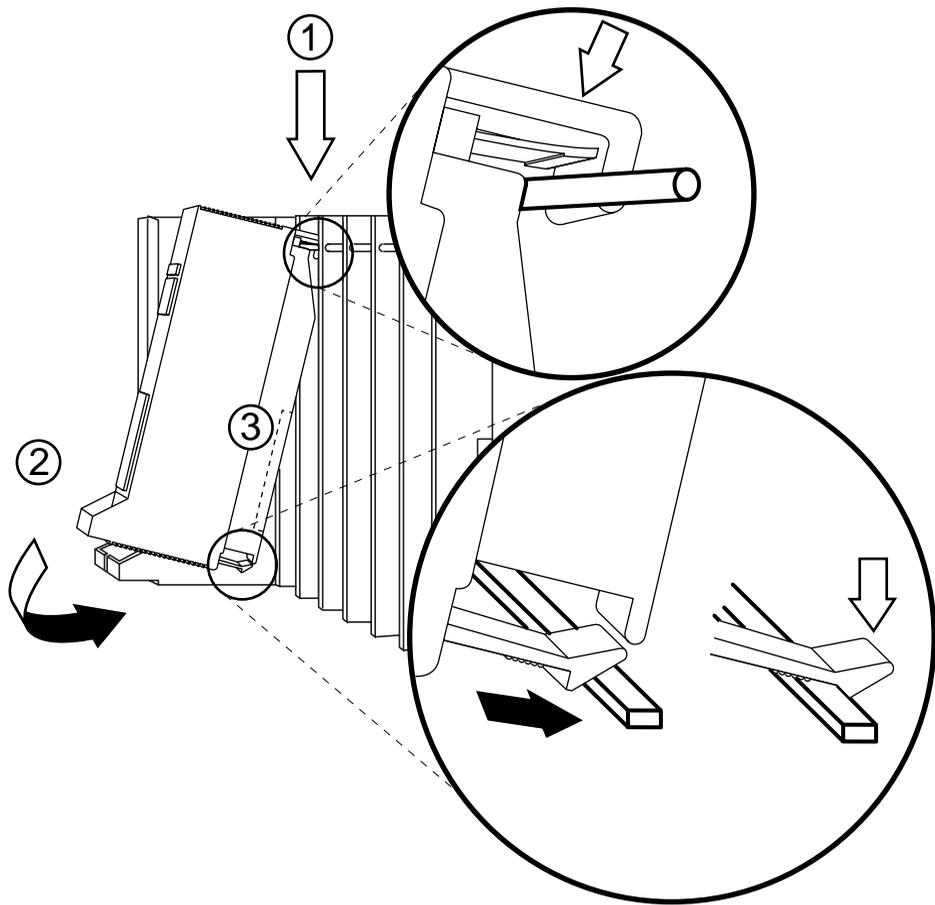

Figure 2-10. Installing the Processor into the Carrier
To install the processor in the carrier, follow the steps below. Refer to Figure 2-10.
To avoid damage, do not force the module. If the module does not insert easily, press the bottom rear locking tab, remove the module, and inspect the module and carrier for damage or obstruction. The bottom-rear locking tab is shown in Figure 2-10. This tab is used on all modules.
- ▶ **3. Lower the hook on top of the module onto the rod on the top of the carrier in the appropriate slot. See Figure 2-10 on page 2-32.**